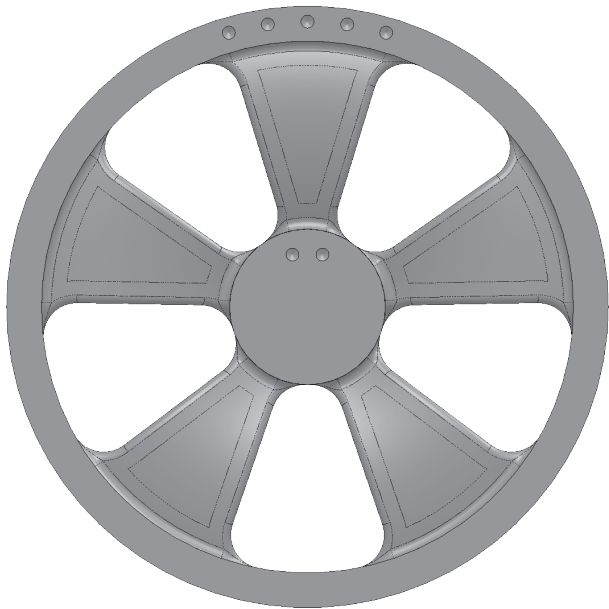

**Fig. 43**
Step 17. **Ctrl click the two Points on angled radial lines, Point near Origin and vertical centerline**, **Fig. 43**.